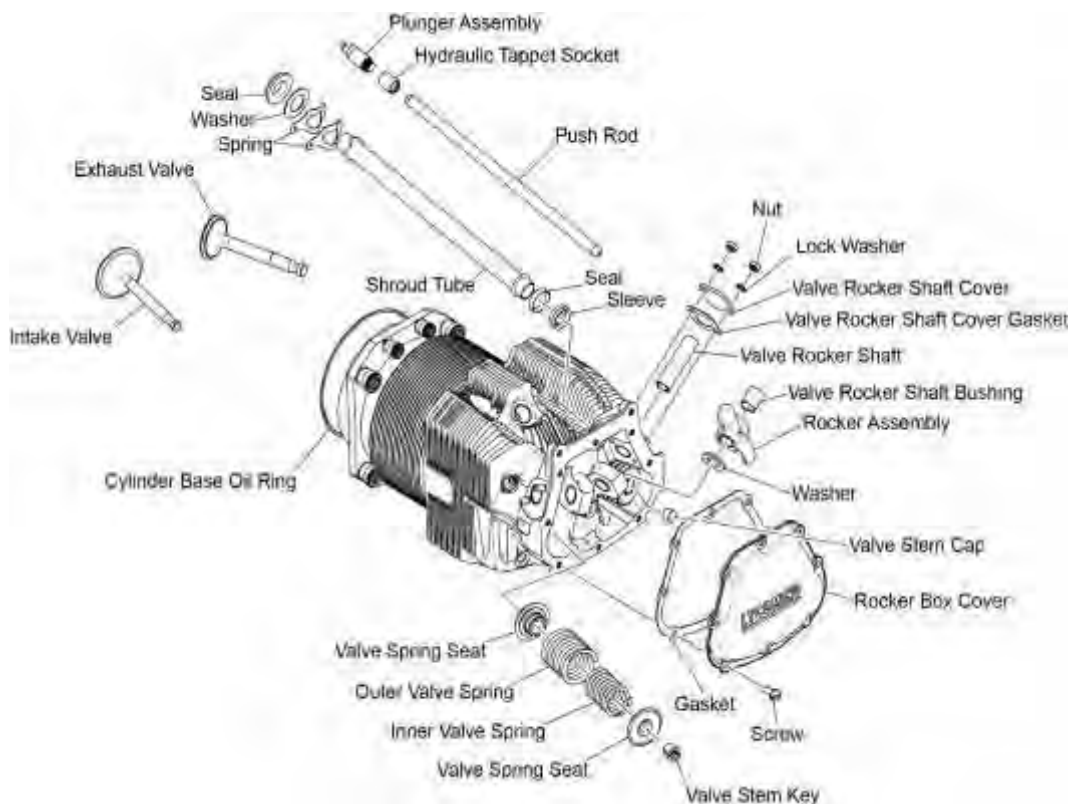
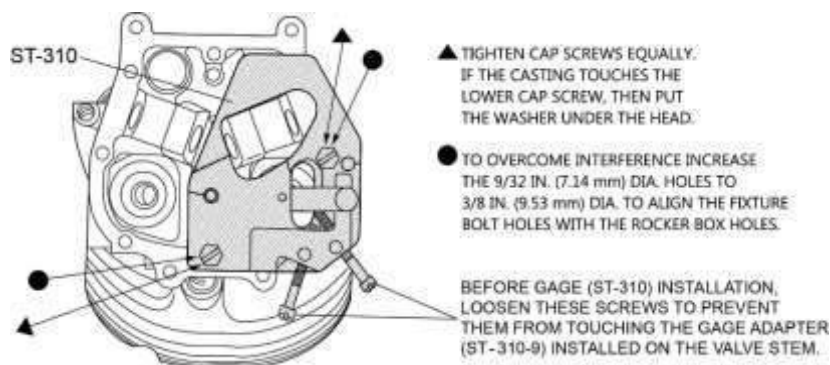

Figure 5
Figure 6
- (1) Disconnect the battery.
- (2) Make sure the engine is cool.
- (3) Remove the screws, rocker box cover (Figure 5) and gasket from the cylinder head.
- (8) Remove all of the push rods, shroud tubes, hydraulic tappets, plunger assemblies, sleeve, springs, washers, and seals from the engine cylinder.
- (9) Use a cloth dampened with mineral spirits to wipe the oil from the top surface of the valve spring seat on the exhaust valve (Figure 5).
- (10) Loosen the screws identified in Figure 6 to prevent the screws from touching the Gage Adapter (ST-310-9) when installed on the valve stem.
- (11) Install the Gage (ST-310) on the valve on the cylinder head as shown in Figure 6.
- (12) Tighten the cap screws (identified in Figure 6) equally. If the casting touches the lower cap screw, put the washer under the head.
- (13) Measure stem movements by moving the valve stem along the valve guide wear line (inside diameter of the valve guide, parallel to the centerline of the valve rocker arm).
- (22) Move the piston to near its top end of travel.
- (23) Remove the Gage Adapter (ST-310-9) from the valve stem.
- (24) Loosen each cap screw in the Gage (ST-310) (Figure 6) in small equal increments to decrease pressure on the valve spring slowly and equally.
- (25) Remove the Gage (ST-310) from the cylinder.
- (26) Repeat this exhaust valve and guide inspection for all cylinders.
- (27) Record all of the results in the 1000-Hour Inspection Checklist for TEO-540-C1A engines in Chapter 05-20.
- (28) If removed, examine and install acceptable plunger assemblies and hydraulic tappets in the correct location. Refer to the latest revision of Service Instruction SI-1011 for plunger assembly inspection guidelines.
- (29) Install all of the seals, washers, sleeve, springs, shroud tubes, and push rods (Figure 5) on the cylinder.
- (31) Install the rocker assembly, washer, and exhaust valve rocker shaft (Figure 5).
- (32) Install the valve rocker shaft cover with a new valve rocker shaft cover gasket, new lock washers and nuts.
- (33) Install the screws, rocker box cover with a serviceable silicone gasket or new cork gasket on the cylinder head (Figure 5). Torque the screws in accordance with instructions in the Cylinder Installation section of this chapter.
- (34) Reconnect the battery.
- (35) Complete the “Operational Ground Check” in Chapter 72-00.